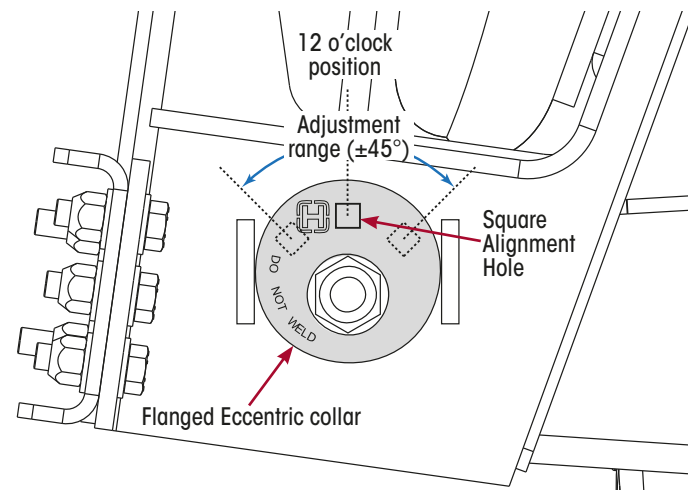

Figure 25: QUIK-ALIGN® Eccentric Collar Positions
**NOTICE:** It is good practice to carry out axle alignment by rotating the eccentric QUIK-ALIGN® collars on both left and right sides (one forward and the other backwards). This ensures that the axle remains centred. Simply moving the QUIK-ALIGN collar on one side may result in an axle that is excessively forward or rearward, which may result in further problems, such as a wheel rubbing on a mudguard. Refer Figure 25.